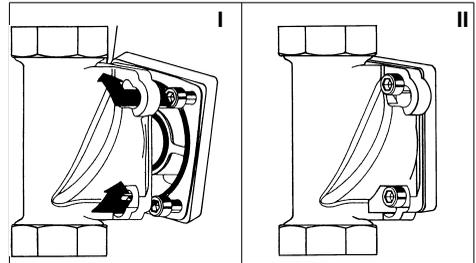

Fig. 4: Built-in rotary flange with Bayonet Fixture
- Insert the four flange screws in the bayonet drill holes on the built-in rotary flange (see Fig. 4 I).
- Turn the filter in a clockwise direction as far as it will go (see Fig. 4 II).